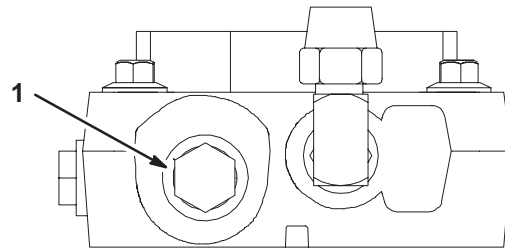

Figure 23
- Rotate the by-pass valves counterclockwise 1 turn to push. This allows hydraulic fluid to by-pass the pump enabling the wheels to turn (Fig. 23).
- Rotate the by-pass valves clockwise 1 turn to operate machine (Fig. 23).